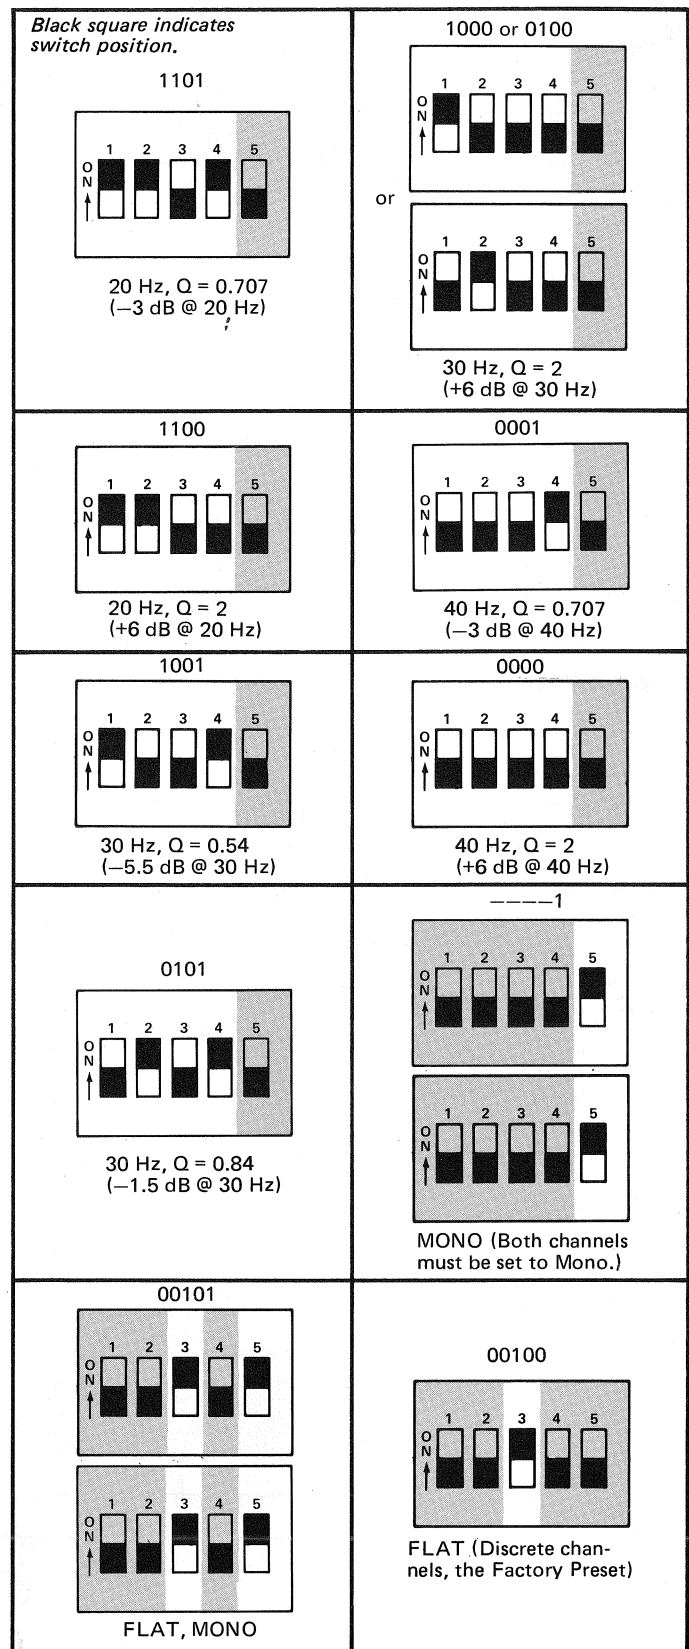

Figure 7 — DIP Switch Programming for the Various High-Pass Filter Characteristics, & Mono Mode
3. Set the DIP switch(es) according to the information in Figure 7.